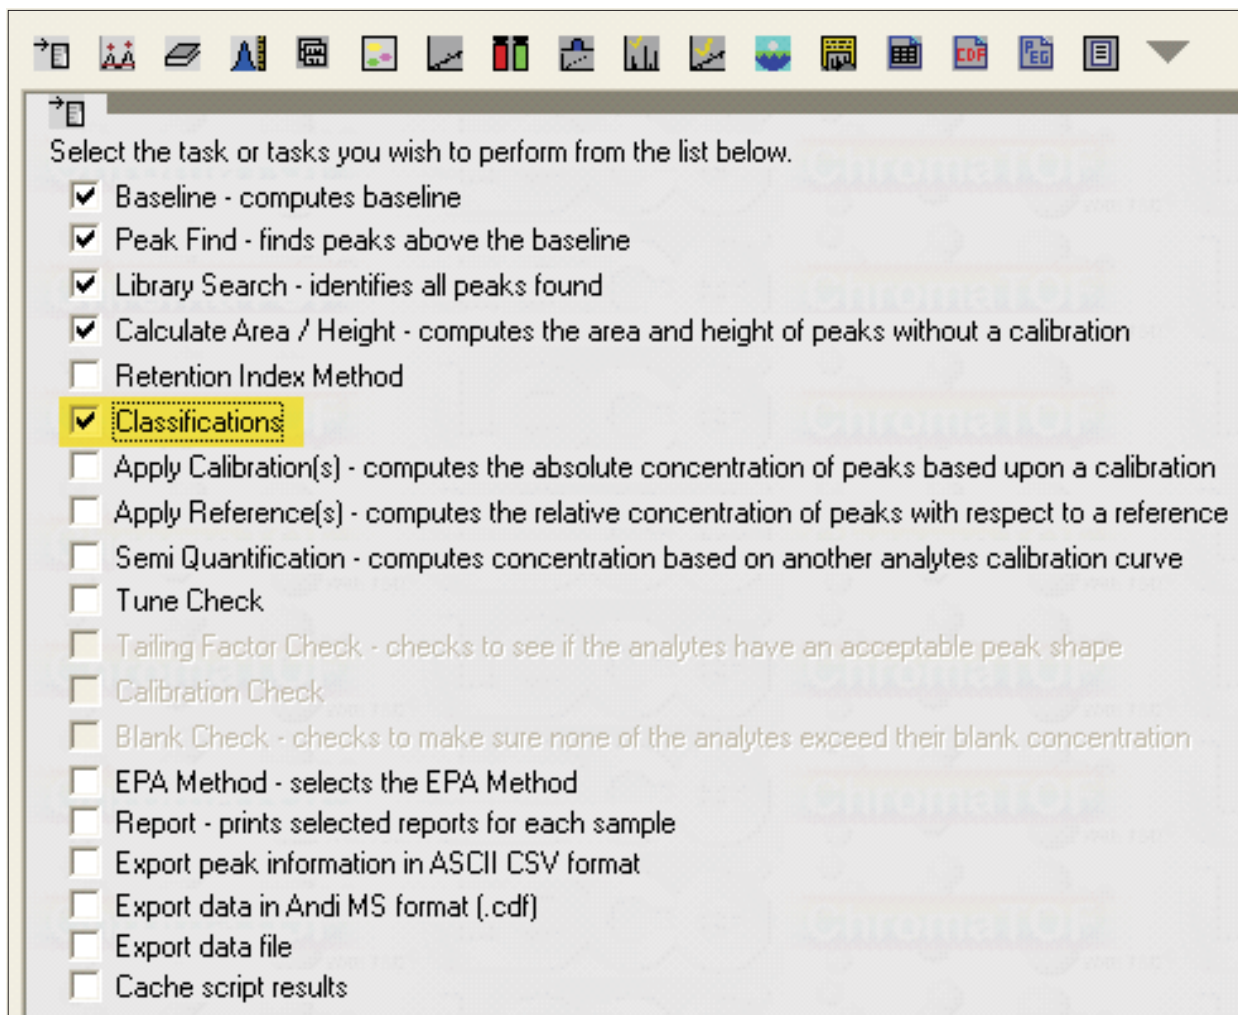
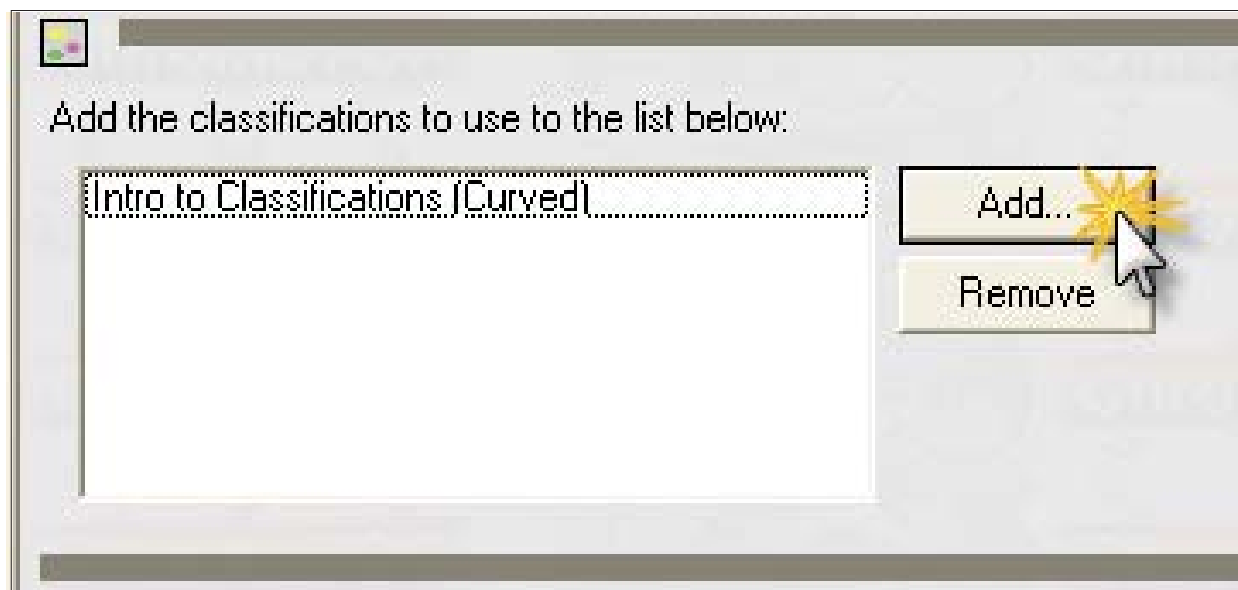

Figure 23: The Task Selection List at the beginning of the DP Method with the check-box enabling Classifications highlighted.
Figure 24: The list of Classifications to be used. It is located at the bottom of the DP Method.
Classifications are implemented as part of the Data Processing (DP) Method. To add Classifications to the DP Method, go to the Task Selection List at the beginning of the method and make sure there is a check in the box next to Classifications (see Figure 23). At the bottom of the DP Method, add the Classifications to use by clicking on the Add button (see Figure 24).